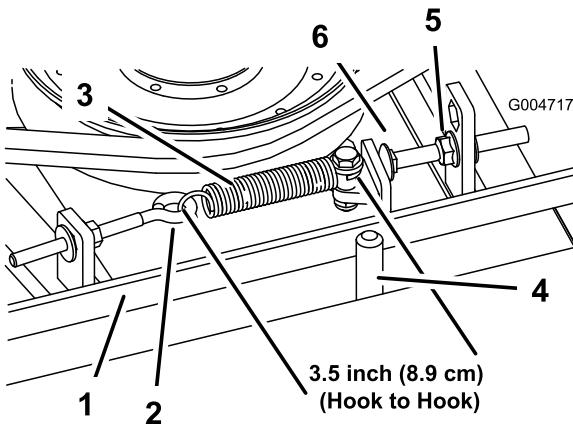

Figure 97
When properly tensioned, the extension spring (hook to hook) measurement should be approximately 8.9 cm  $\pm$  .63 cm (3.50  $\pm$ .25 inch) (inside). Once the correct spring tension is attained, adjust the stop bolt (carriage bolt) until there is approximately .32 cm  $\pm$  .152/.000 cm (.125 +.060/-0.000 inch) clearance between the head of the bolt and the idler arm (Figure 97).
**Note:** Make sure the belt is positioned on the spring side of the belt guide (Figure 97).
2. Loosen the eye bolt allowing the removal of the extension spring (Figure 97).
3. Loosen the flange nut securing the stop bolt to the mounting tab. Back off the nut enough to allow the idler arm to pass by the stop bolt (Figure 97). Move the idler pulley away from the belt to release belt tension.
8. Reconnect the extension spring (Figure 97) to the eye bolt and tension the belt as follows: